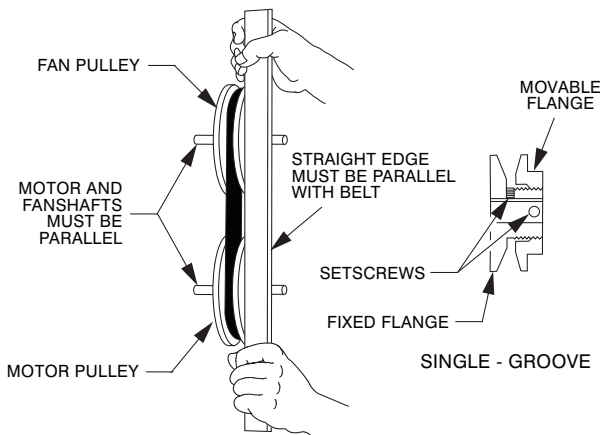

Fig. 10 - Supply-Fan Pulley Adjustment
around the fixed flange side that increases or reduces the pitch diameter of this driver pulley. (See Fig. 10.)
3. Loosen movable pulley flange setscrew. (See Fig. 10.)
26. Align the motor pulley and blower wheel pulley using a straight edge. See Fig. 10.